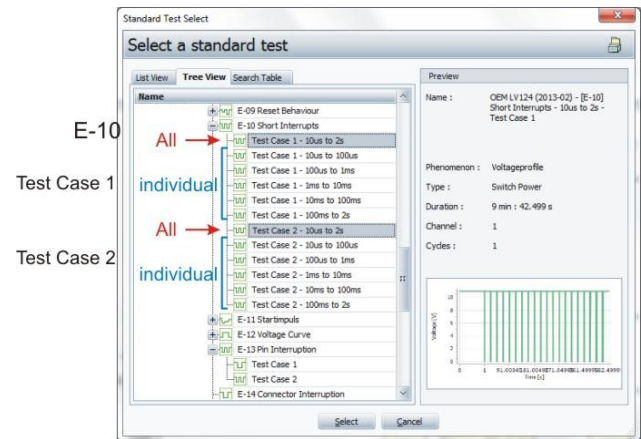

Figure 6.3 Selecting the Sequence for E-10
- **All Test Sequences Together** as shown in the test sequence is shown in Figure 6.3 marked in grey.